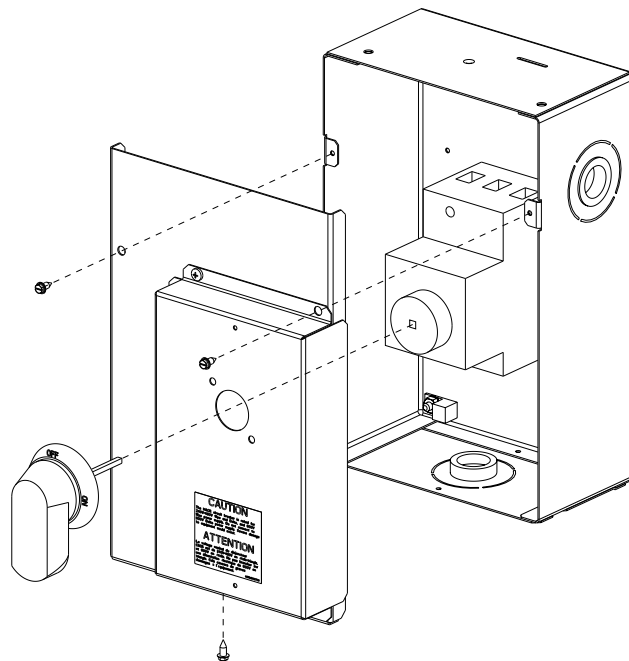

Fig. 26 — Handle and Shaft Assembly for HACR Circuit Breaker
2. Remove (3) hex screws on the HACR circuit breaker enclosure - (2) on the face of the cover and (1) on bottom (see Fig. 26).
9. Secure the handle to the painted cover with (2) screws and lock washers supplied.
10. Engaging the shaft into the handle socket, re-install (3) hex screws on the HACR circuit breaker enclosure.